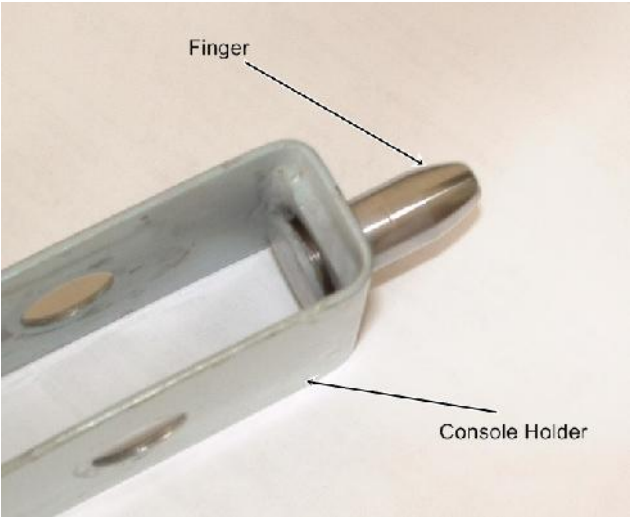
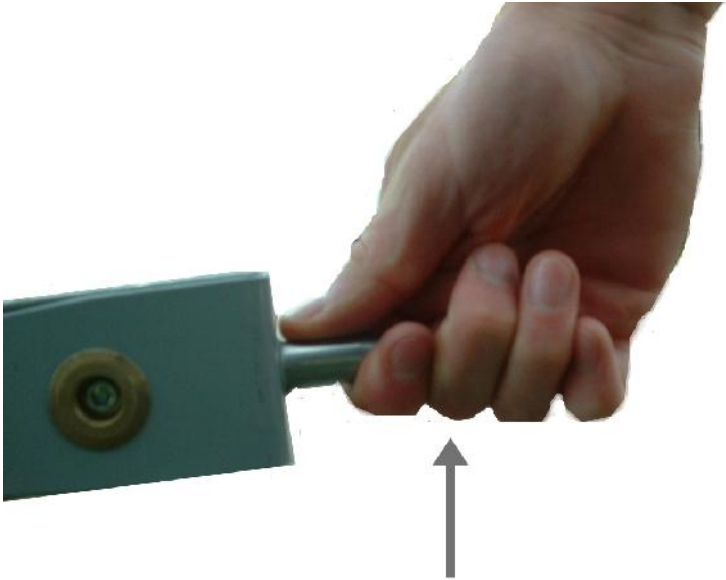
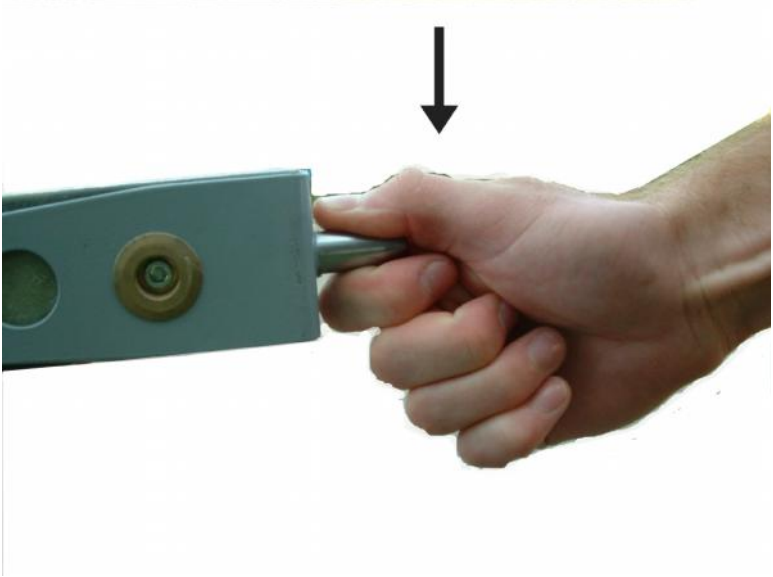

Fig. 1
Fig. 2
Fig. 3
1. Grab the finger on the end of the spar of the console (outer wing) (Fig. 1) with one hand and try to pull it up (Fig.2) and pull it down (Fig.3) while holding the whole console constrained so that it does not move.